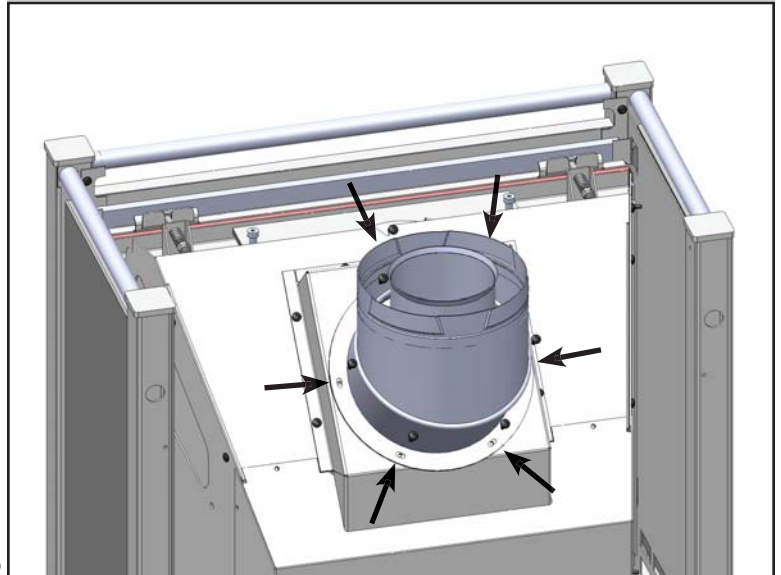

Fig.25
6. Remove screws from flue collar (6 screws). (Fig.25)